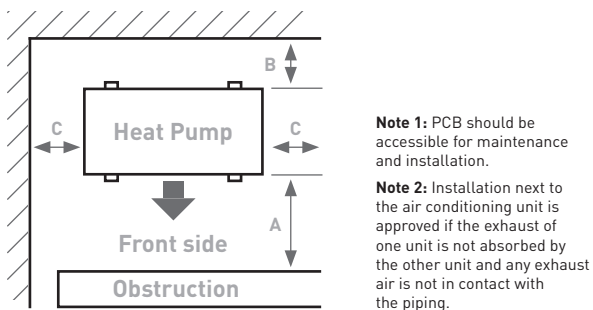

Figure 2: Required space for installation of heat pump.
- The clearance on front and back of the unit are 350 mm and 600 mm- please refer to Figure 2.
- Be sure to install the heat pump unit in accordance with the spacing provided in Figure 2.